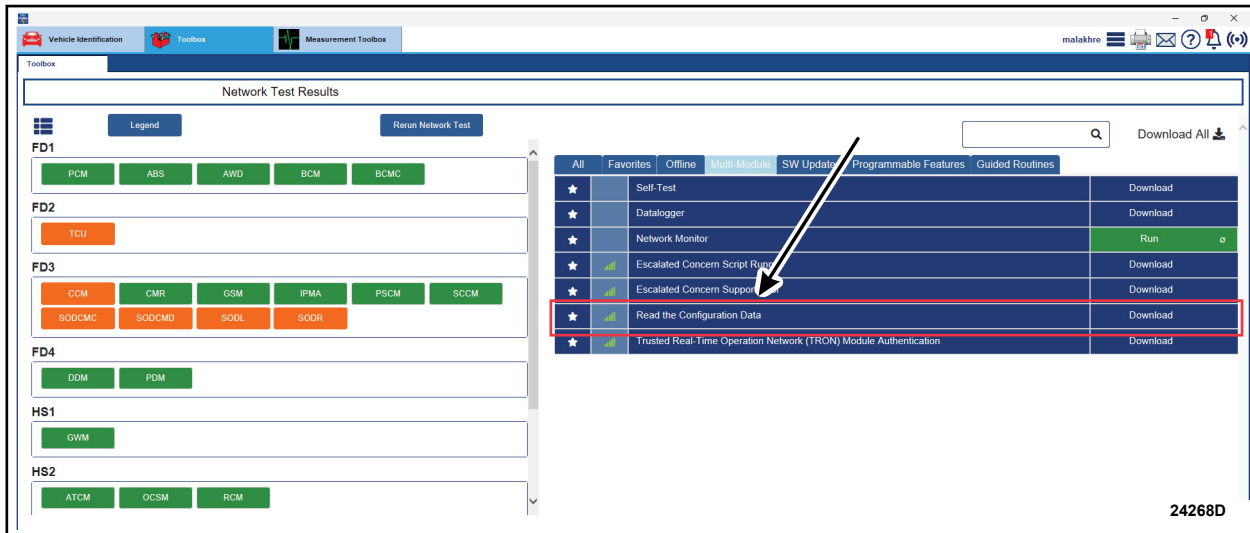

FIGURE 1
9. From the list on the RH side of the screen, select **Read the Configuration Data**. See Figure 1.